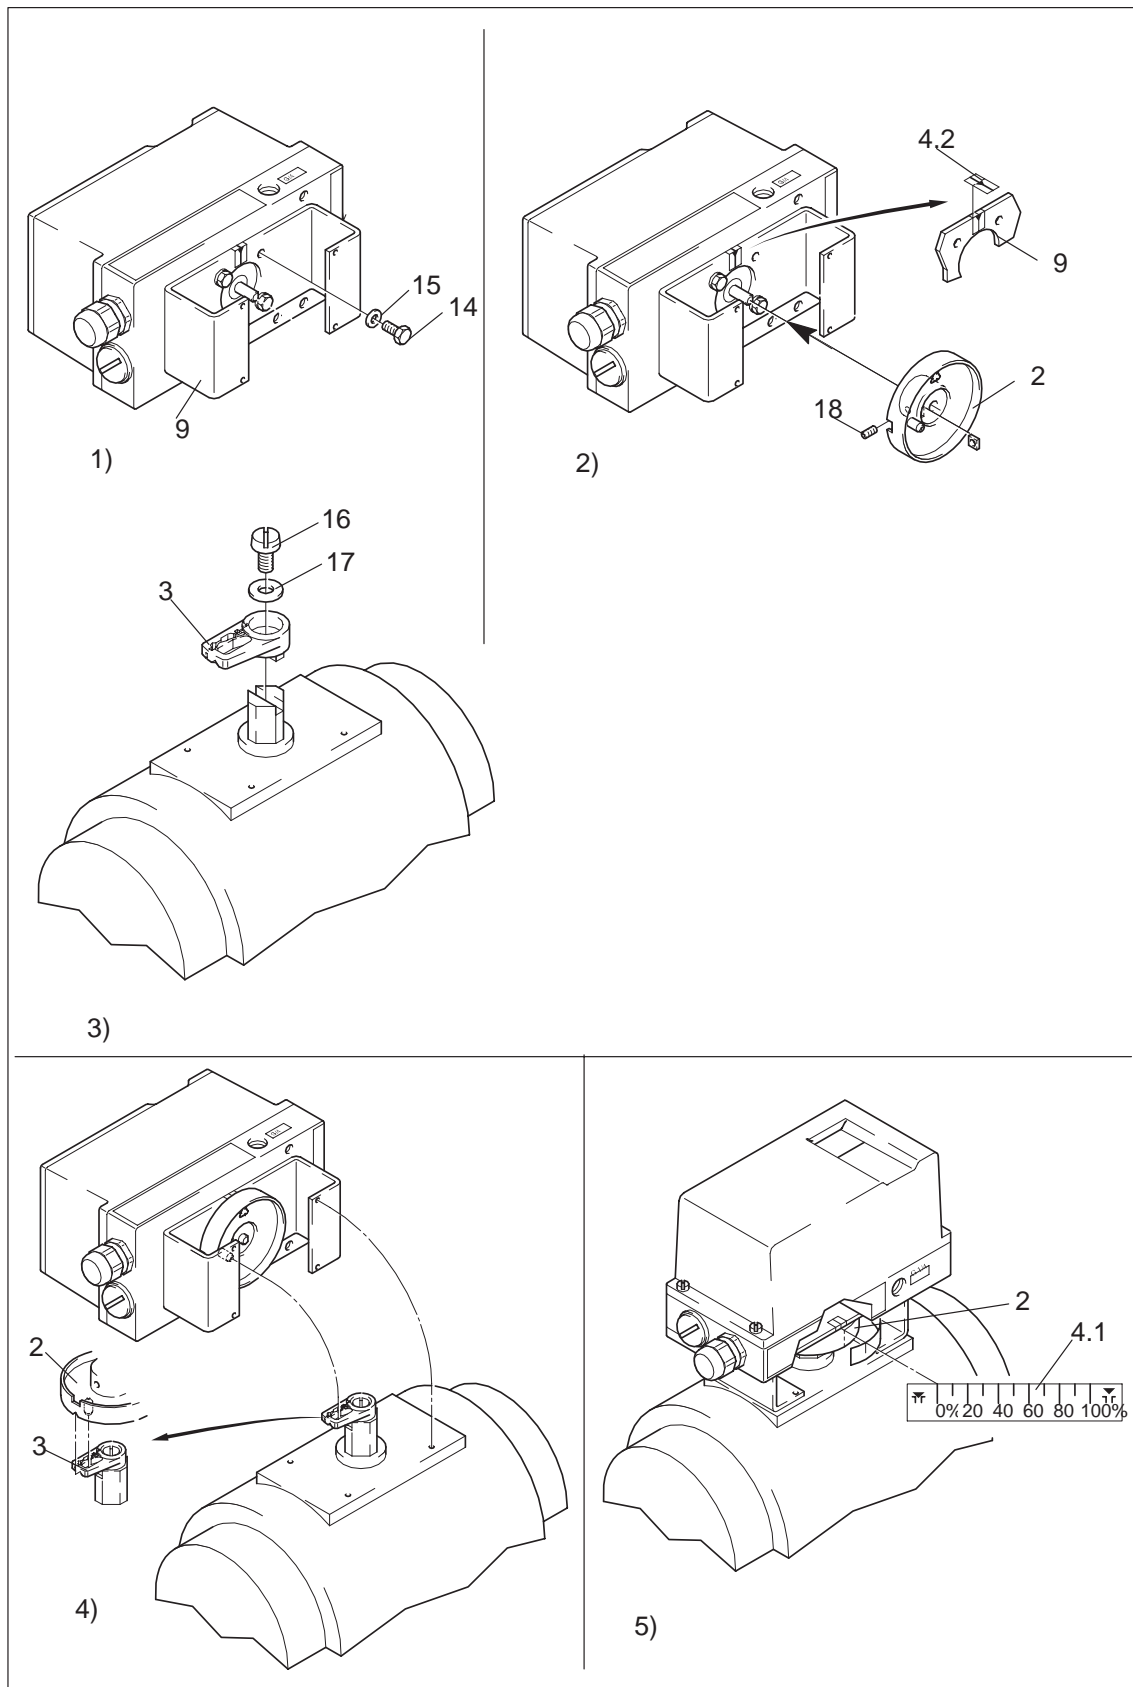

Figure 3-6 Assembly sequence (rotary actuator)
The following are included in the *supply of the mounting kit* “Rotary actuator” (see Figure 3-6 for item Nos.):
3.3.4 Assembly Sequence (see Figure 3-6)